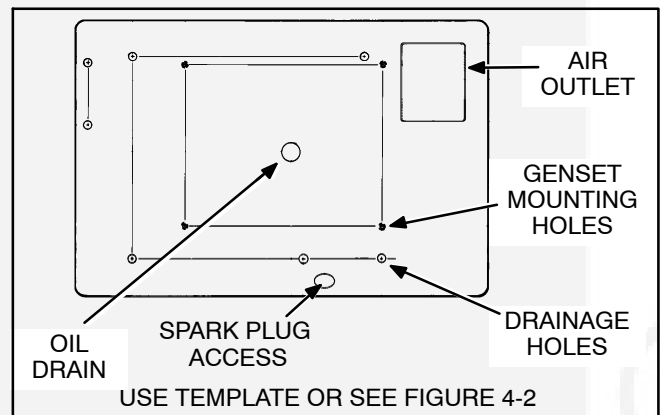

FIGURE 3-4. COMPARTMENT FLOOR TEMPLATE
2. Put holes in the bottom of the compartment for genset mounting, air outlet, oil drain, and spark plug access (Figure 3-4). If the bottom of the compartment is wooden, remove the wooden section under compartment and replace it with a sheet metal floor and an adequate steel support frame. (Refer to Onan template number 539-1386).